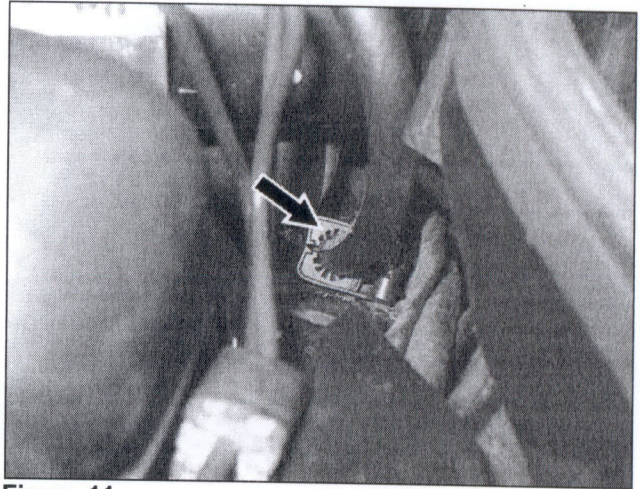

Figure 11
- Install the new SBC suction hose mounting clip (arrow, Figure 11) onto the mounting stud.